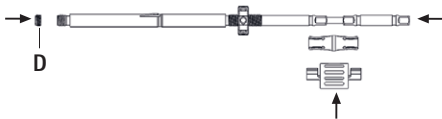

Fig. 11
- Insert screwdriver into inner sleeve, secure with spacer and apply set screw D, see Fig. 11.